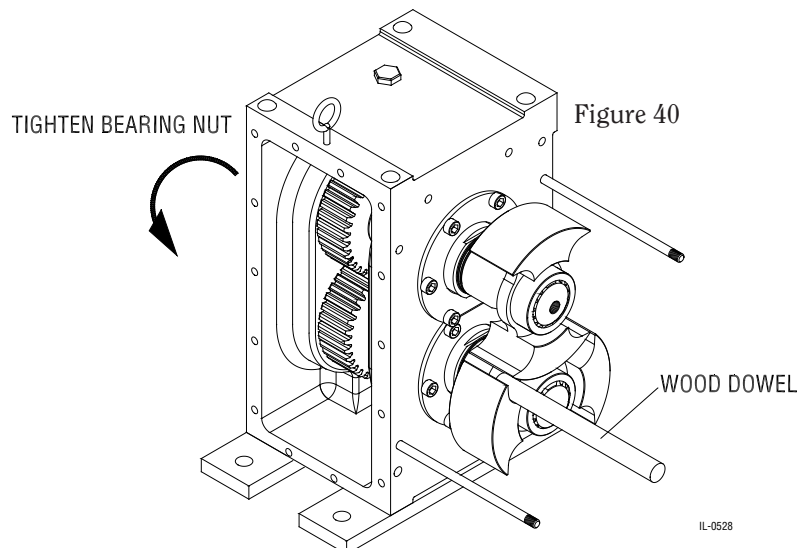

Figure 40
- j) Place a wooden dowel between the rotors, as shown in Figure 40 and tighten the bearing lock nut on the drive shaft with the spanner wrench to the torque specified in Table A2, page 5. Use an indicating torque wrench.